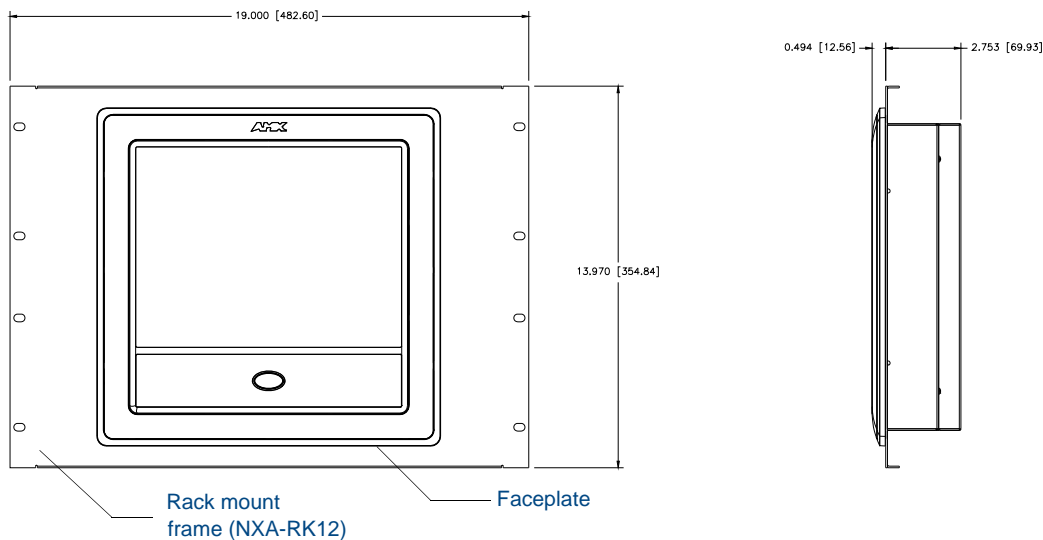

FIG. 43 NXD-1200V 12 inch Wall Mount panel installed into an NXA-RK12 Rack Mount Kit
6. Insert the main 12-inch Modero unit into an NXA-RK12 (FIG. 43).